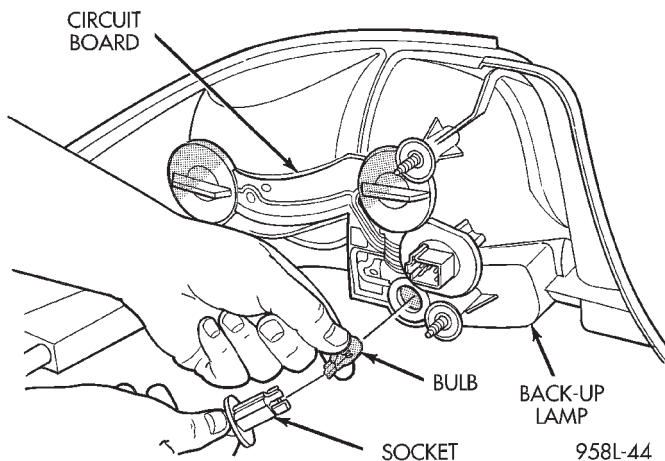

Fig. 8 Back - Up Lamp Bulb
- (1) Release decklid latch and open decklid.
- (2) Remove wing-nuts attaching tail lamp to rear closure panel.
- (3) Remove lamp from opening in quarter panel.
- (4) Disconnect wire connector from back of tail lamp.
- (5) Rotate socket counterclockwise one quarter turn.
- (6) Pull socket from back of lamp (Fig. 8).
- (7) Pull bulb from socket.